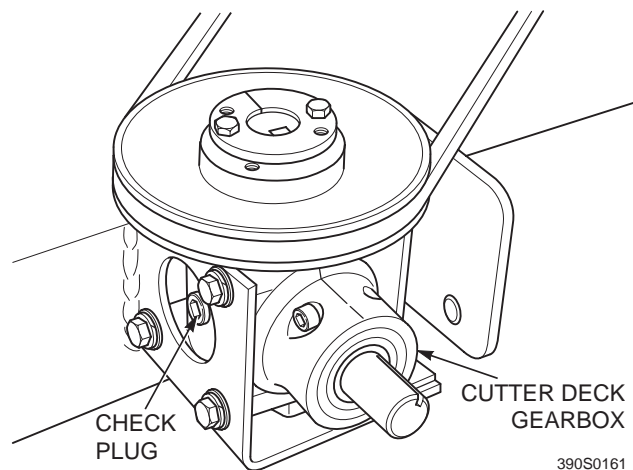

Figure 7-9. Cutter Deck Gearbox
- Clean and remove the check plug from the side of the gearbox. See Figure 7-9.